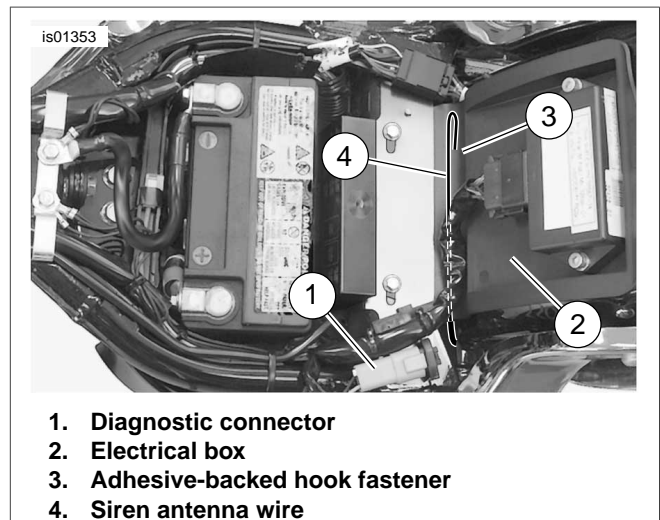

Figure 20. Siren Antenna Mounting (Softail Models EXCEPT FXCW/C)
6. Insert the siren harness lead (4) into the harness clip (3) to keep the harness clear of other components.
8. See Figure 20. Gently pull the siren pager antenna wire upwards through the fender opening. Lay the wire across the concave surface at the base of the electrical box. Observe where the small-diameter portion of the wire begins, and where that point falls on the electrical box.